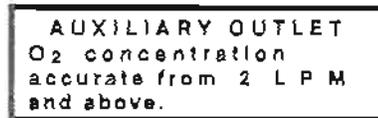

Figure 3-4. Auxiliary outlet decal.
(2) A decal, located on the right side of the blender, is illustrated in figure 3-4.